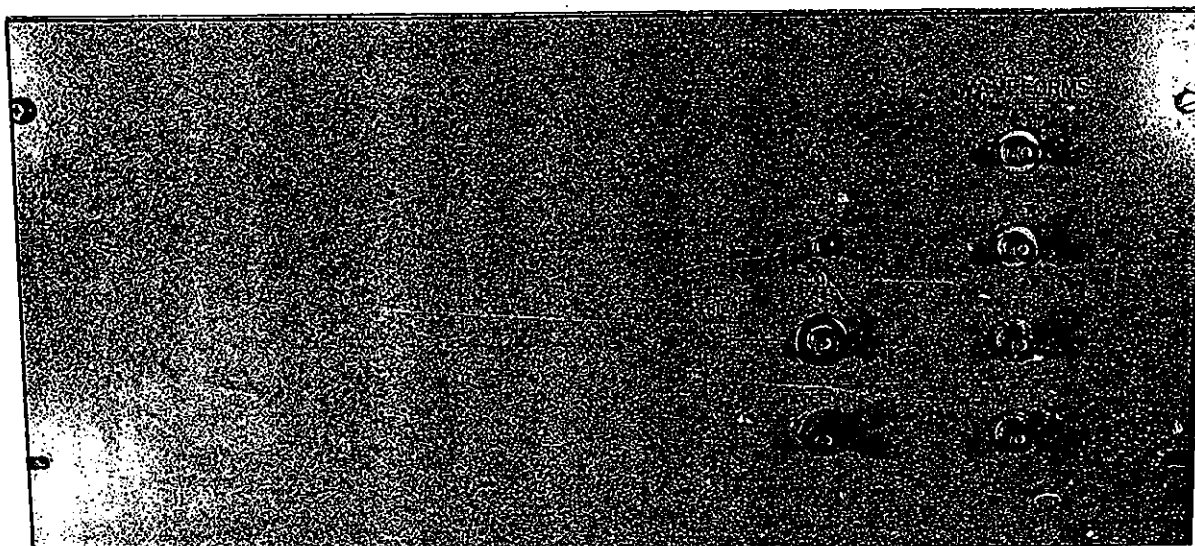

Figure 1.7. 1A8-Waveform Panel (SB-4156/FPN-60(V))
1.3.5 Waveform Panel (1A8). The Waveform Panel (Figure 1.7) has two inputs, ENV TRIG+ and ENV TRIG-. It also provides a convenient access to the following signals: